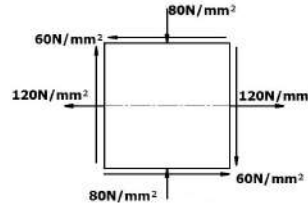

Figure 11
9. The state of the stress in two dimensionally stressed body is shown in **Figure 11**. Determine the principal planes, principle stresses, maximum shear stresses and their planes (June/ July 08)